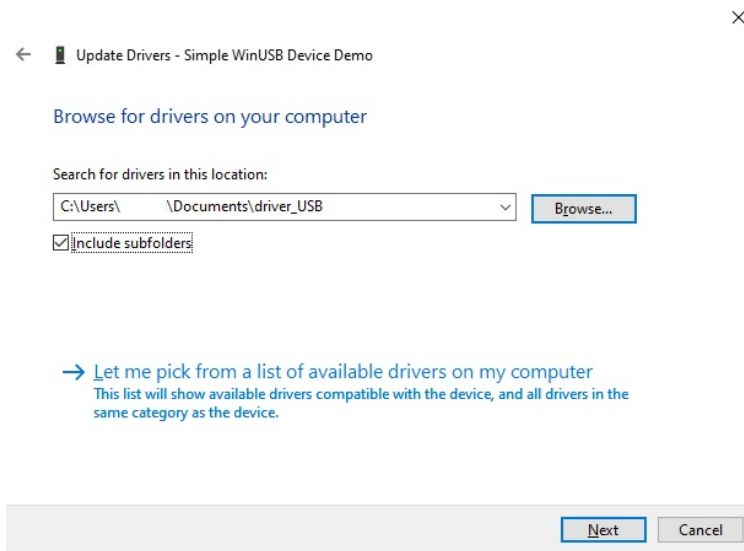

Fig. 10.11: "Update Drivers" window including path to the USB driver.
- Point the driver folder in the PC destination path through the "Browse..." button and check "Include subfolders" (see Fig. 10.11).